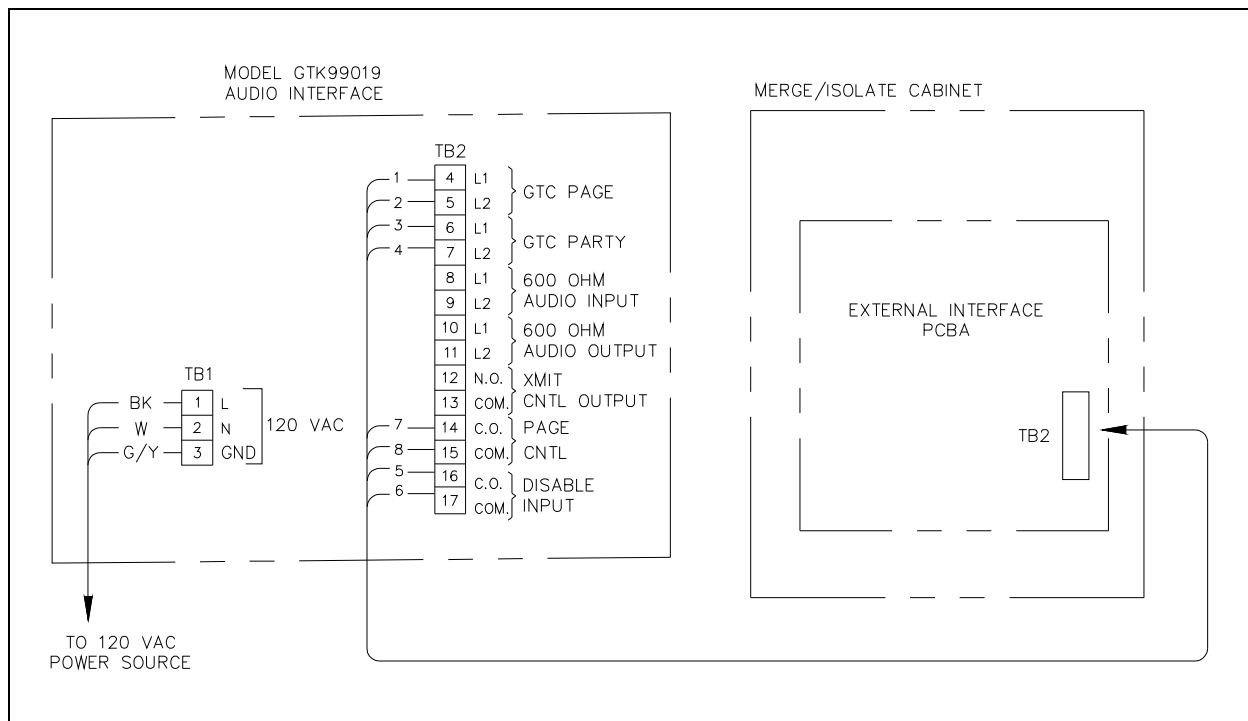

Figure 5. Model GTK99019 Audio Interface Connection Diagram
3. Connect the audio interface to the Model MI05-104 Merge/Isolate Cabinet’s external interface PCBA as follows using a four-pair, No. 18–20 AWG cable. Refer to Figure 5.